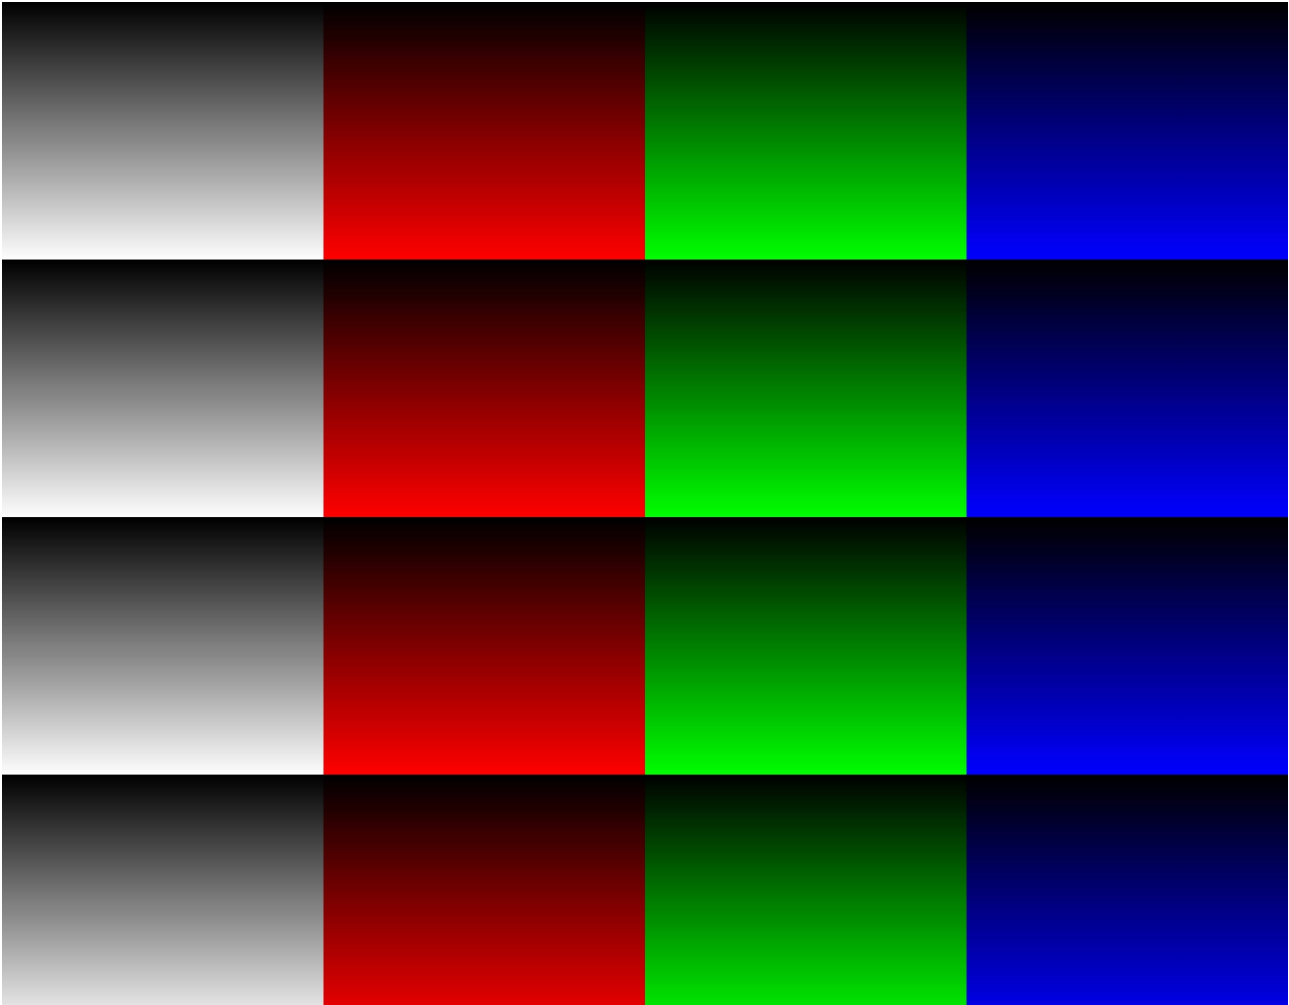

Figure 15 : Vertical color pattern
4. Vertical color ramp – vertical gradient of several color stripes as shown in Figure 15.